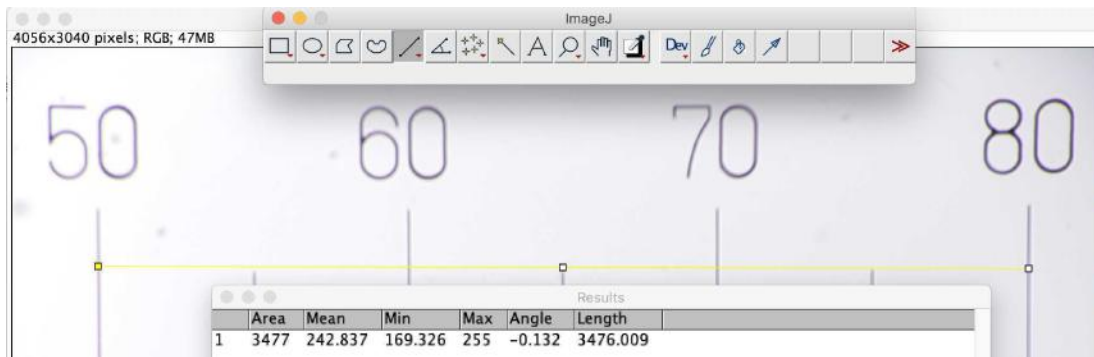

Figure 5: Line drawn using ImageJ on the picture taken with the PlanktoScope
4. Click on the line button (see Fig.5) and trace a line
In this example (Fig.5), the line is 3476 pixel length for 3mm, which means that here one pixel is 0.86, which differ from the expected value of 0.75 for this camera.
Calculate how much microns are represented by each pixel. The expected value for the default camera is expected to be around 0.75. You will need to do **Length(micron)/Length(pixels)** (see the example in Fig.5).